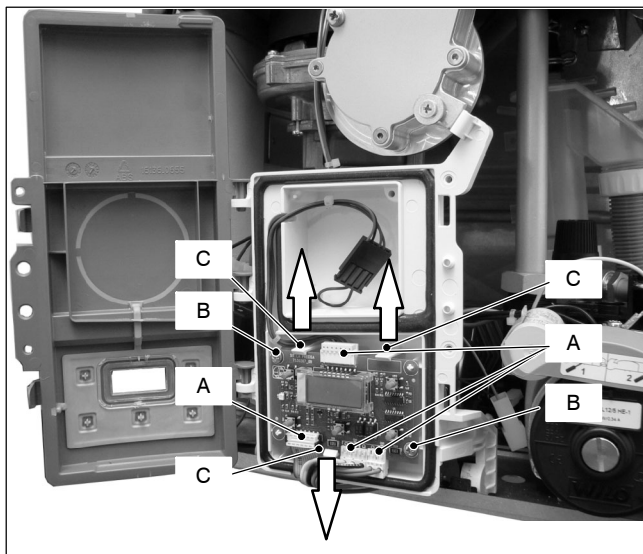

Fig. 10.3
- 3 Remove all the wiring A connected to the *Control panel electronic p.c.b.* (Fig. 10.3).
- 5 Delicately flex the hooks *C* in the directions indicated (Fig. 10.3) in order to release the circuit from the box.